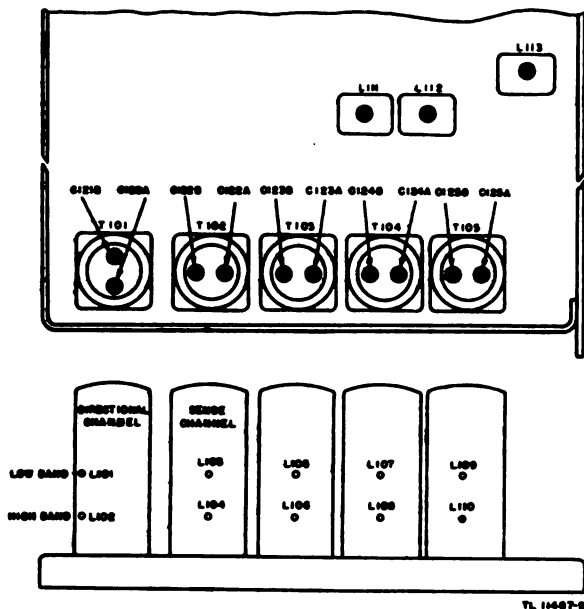

Figure 132. R-f trimmer locations.
(1) Necessary alignment frequencies are: inductance (core adjustment) 260 kc, and capacitance (trimmer adjustment) 580 kc.
(2) With the equipment set up as for i-f alignment connect the signal generator to the signal grid (pin No. 8) of V104 in the modulator-receiver unit (fig. 130). Adjust the oscillator coil L409 (fig. 132) and trimmer C425a for maximum output at the frequencies given above. Repeat until the alignment is accurate at both frequencies.